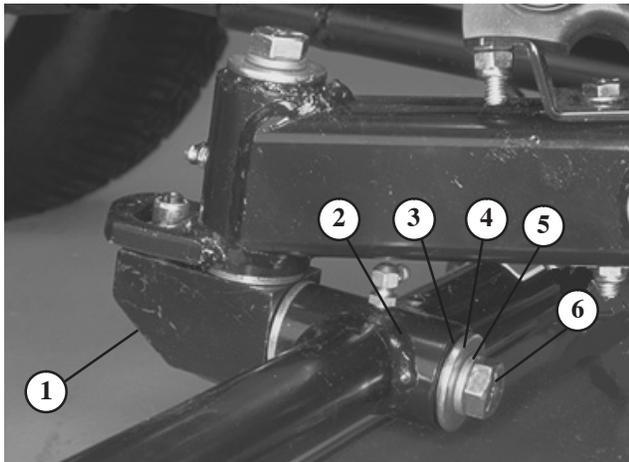

Figure 8
- Align the mounting shaft of the cutting unit with the pivot tube on the carrier frame. Insert the shaft into the tube (Fig. 8).
- Secure shaft in pivot tube with a thrust washer, flat washer, lock washer, and capscrew (Fig. 8).